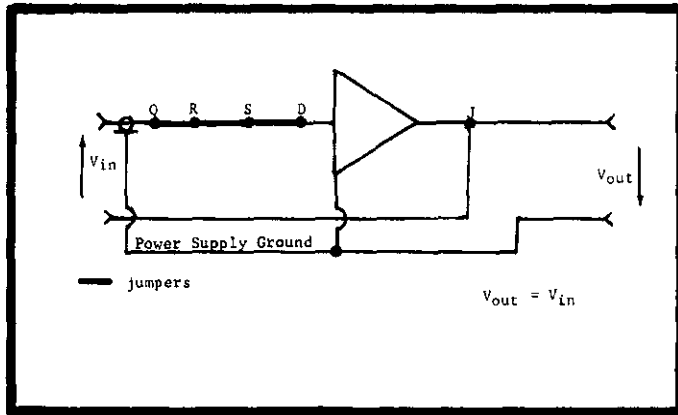

FIGURE 12. Impedance Matching Unity-Gain Amplifier.
2-10. IMPEDANCE MATCHING AMPLIFIER (Figures 12 and 13).
1. For the unity-gain amplifier (Figure 12): if the low side of the signal source is grounded, then the high side of the output is grounded. Therefore, the power supply must be floating if the signal source is not.
c. Connections for the Model 300 as an impedance matching amplifier (Figure 12):